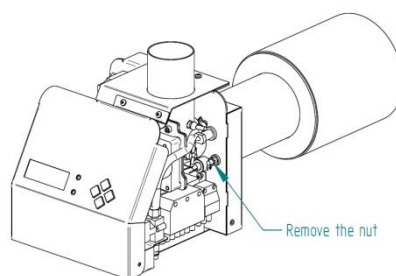

Figure 10
2. Remove the burning chamber from the burner: release M6 nut (Figure 10) that connects burning chamber to burners body. Separate the halves of the burner by pulling the burning chamber and slightly turning it at the same time.